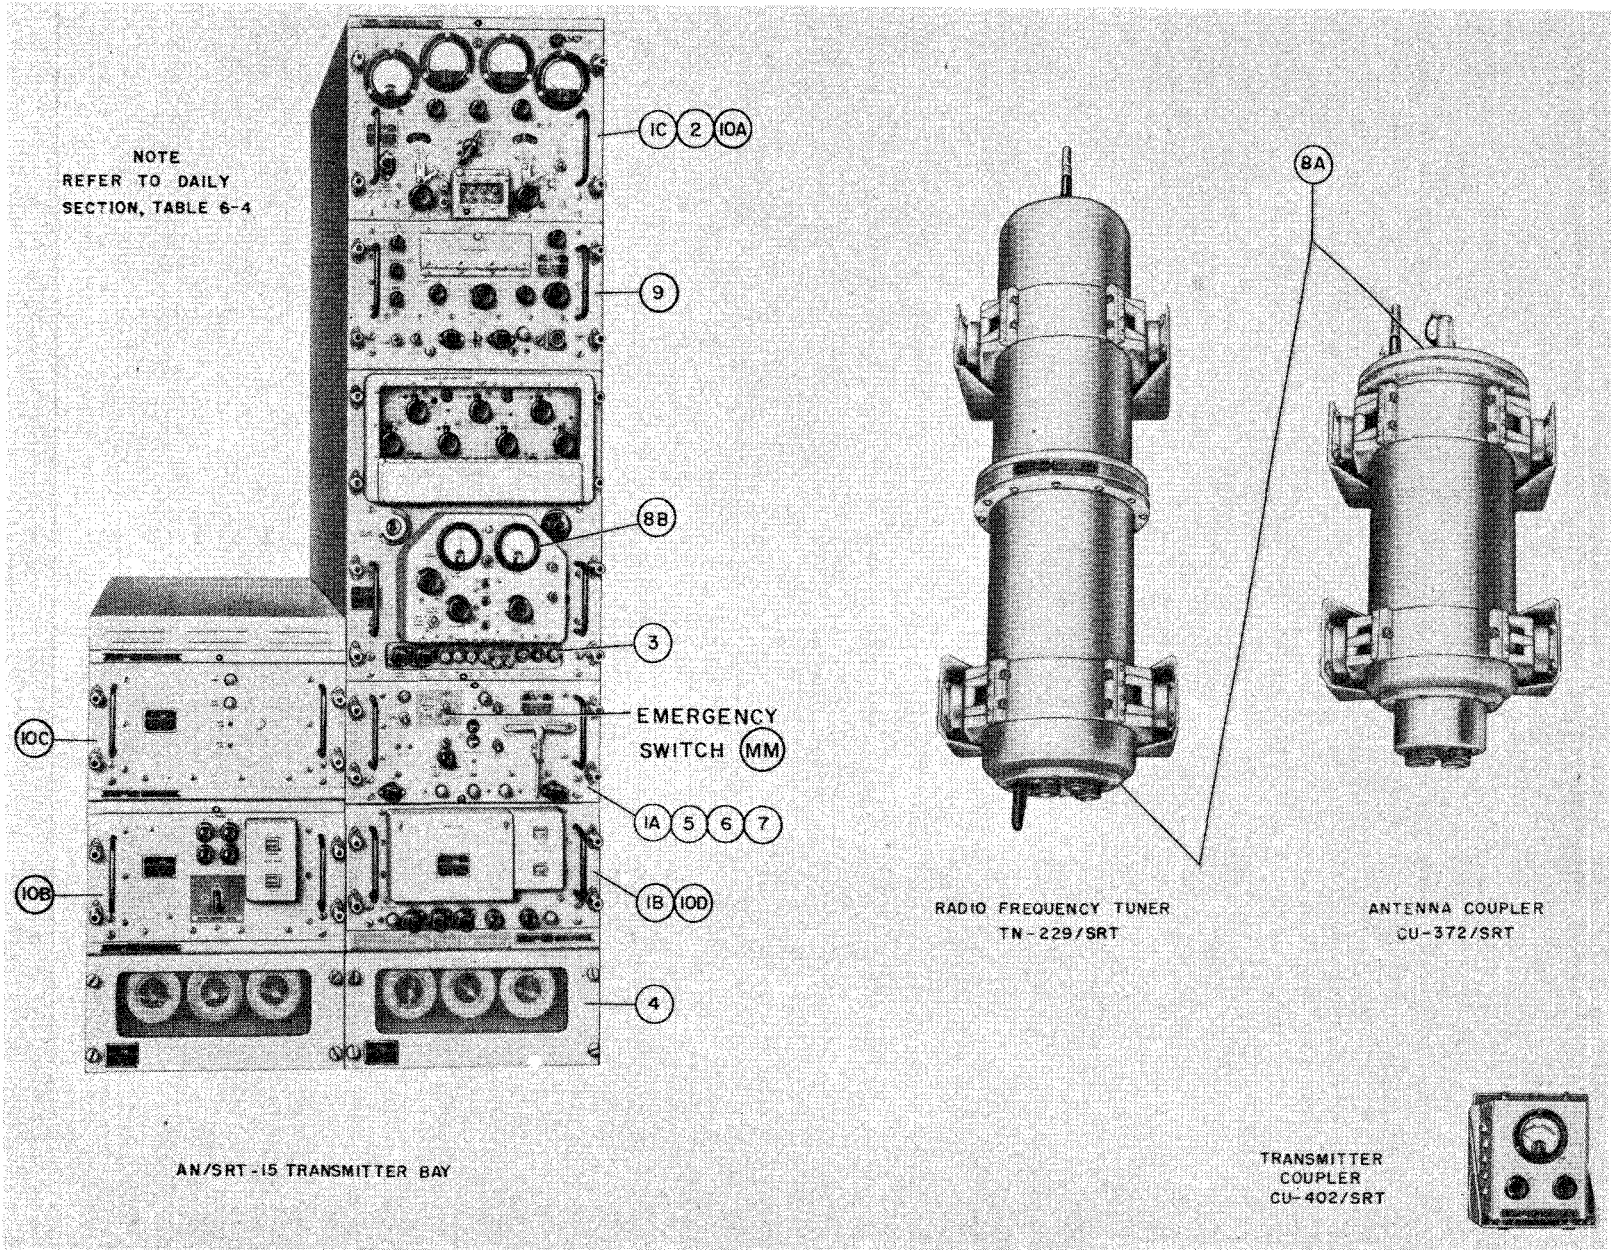

Figure 6-1. Daily Routine Maintenance Checks, AN/SRT-15
Preventive maintenance is routine procedure that is used to check needless breakdown of running equipment and to keep it working efficiently for as long a period as possible. If wear is noticed and checked at an early stage, a serious shutdown may be avoided. Constant and careful inspection, care in replacement and handling procedures, together with the use of proper methods of assembly and disassembly of parts, are all necessary in contributing to the over-all efficient maintenance of the equipment. Accurate records must be kept and a series of routine checks instituted. These will be explained in more detail later in this section. Figure 6-1 illustrates a typical Radio Transmitting Set AN/SRT-15 installation.
WARNING Dangerous voltages exist in the AN/SRT-14, 15 and 16 equipment. The technician should familiarize himself with the voltages present in any chassis in which a check for adjustment is to be made. Before removing a chassis in the transmitter group, turn the EMERGENCY SWITCH  (see figure 6-1) on the front panel of the LVPS to OFF. This will shut down the equipment.
a. Power Supply PP-1094/SRT (LVPS)	(See 1A, figure 6-1.)  Step 1. Place EMERGENCY SWITCH  in ON position.
a. Radio Frequency Amplifier AM-1008/SRT (RFA)	(See 10A, figure 6-1.) Step 1. Energize the PUSH FOR 500 W switch ⊕.